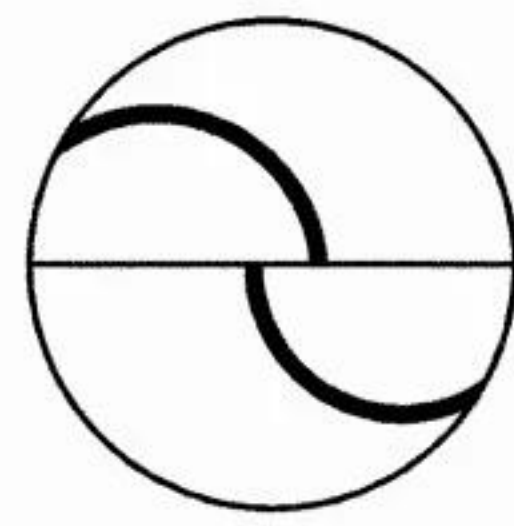

Fig. 6
- D. As slit lamp is too close to patient's eye, the pressed area is too large. Pull back slit lamp till a proper small area and normal beating are got (Fig. 6).